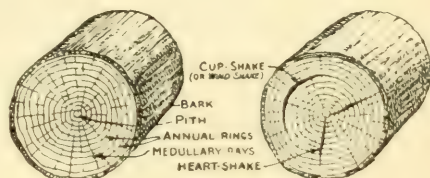

FIG. 63. Tree Structure. FIG. 64. Cracks in Logs.
**Structure of Wood** and how this must be taken into consideration in converting the log into lumber, as it will enable you to select and handle your material more intelligently. Figure 63 shows a *cross-section* of a log. In the center, or generally a little to one side of the center, is a circular core known as the *pith*, then surrounding this is a series of circles known as *annual rings*, and around the outside is the *bark*. The wood between each two rings represents the amount of one year's growth, and the annual rings are produced as a result of the suspension of growth during autumn and winter. By counting the rings it is very easy to determine the age of a tree. The inner portion of the tree is known as the
*heart-wood* and supplies the more solid and desirable material (unless the tree has started to decay, when the first signs are generally to be found here), while the outer wood is known as the *sap-wood*, as it contains the greater portion of the tree's juices. In the cross-sections of logs (Figs. 63 and 64) you will notice a series of lines radiating from the pith, some extending as far as the bark and others running but part way. These, called the *medullary rays*, are a peculiar formation in a tree and produce what is known as *silver-grain* upon the surface of all *quarter-sawed* wood. The tree structure must be taken into consideration in